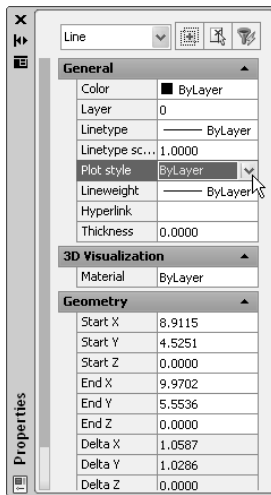

Figure 12.31
4. In the Properties palette, click the Plot Style option. The option turns into a drop-down list with a downward-pointing arrow to the far right (see Figure 12.31). Click the downward-pointing arrow, and then select Other from the list to open the Select Plot Style dialog box, as shown in Figure 12.32.